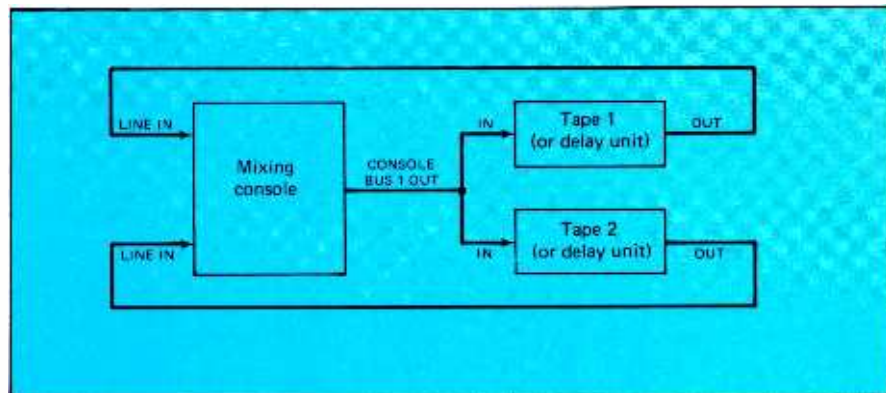

Figure 2. Set-up for creating feedback tones that echo, flange, and shift in pitch.
- See *Figure 2* for this next effect. Use two identical 2-track recorders. Set their outputs to “tape.” Patch their outputs to two console inputs. Assign these two inputs to the same console output bus, and connect the bus to both recorder inputs.